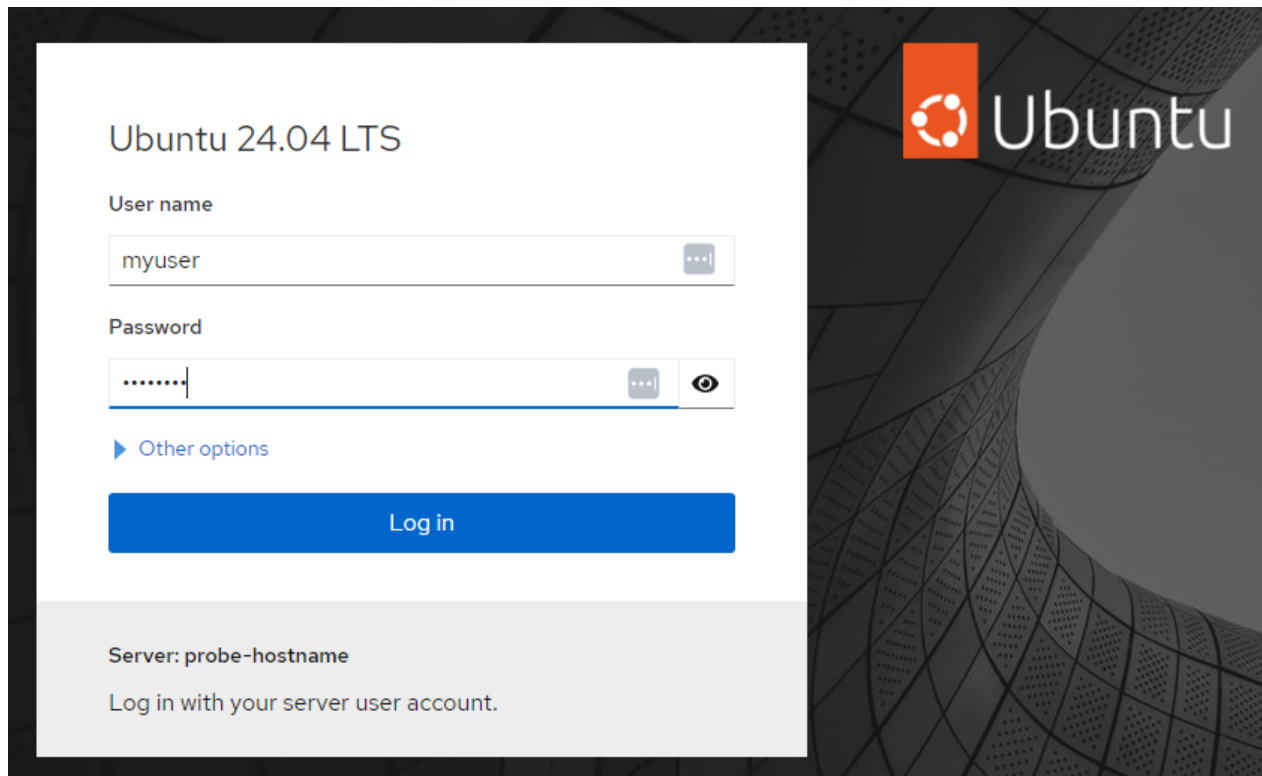

Figure 2.13: Cockpit administrative interface
3. The Cockpit administrative interface should be displayed inside the browser. Cockpit is password-protected and uses the system accounts for logging in. The page displayed should look similar to figure 2.13.